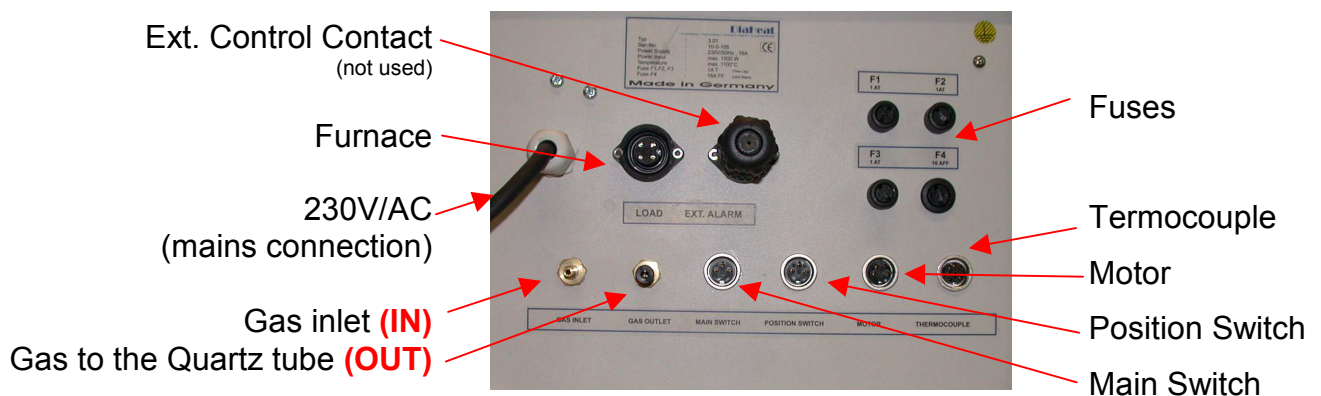

Fig. 2: connections on the control unit
- ✓ Connect the heater block with the control unit with the 4-pole plug at the back of the control unit. (Fig.2), connect the plugs for motor and position switches with the corresponding sockets.
- ✓ Connect the plug of the thermocouple (green compensating cable) with the corresponding socket of the control unit. (Fig.2)
- ✓ Connect the control unit with power supply system 230 V/AC. (Fig.2)
- ✓ Connect the gas inlet (control unit – back side Fig. 2) with your inert gas supply i.e. Argon or Nitrogen
- ✓ Connect the gas outlet at the control unit (back side Fig. 2) with the gas inlet the Quartz tube (Fig. 3).